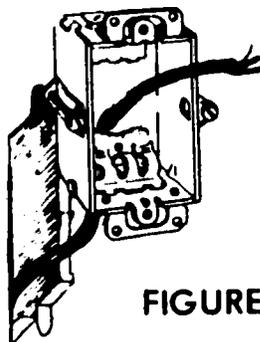

FIGURE 5
- J. Replace box in opening (Figure 5)
- F. Apply outward pressure on hanger (Figure 5)